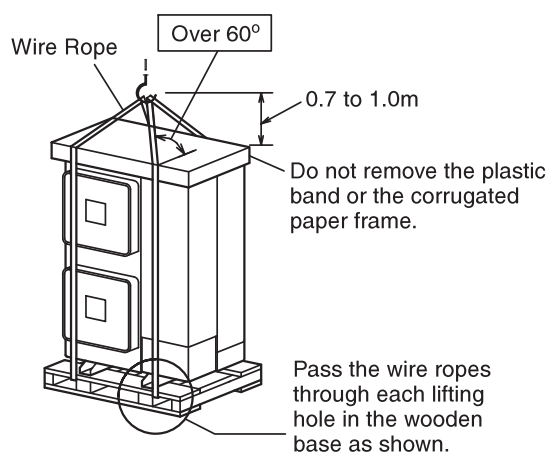

Fig. 3.1 Hanging Work for Transportation
- (1) Do not remove any packing materials.
- (2) Hang the unit under packing condition with two (2) ropes, as shown in Fig. 3.1.